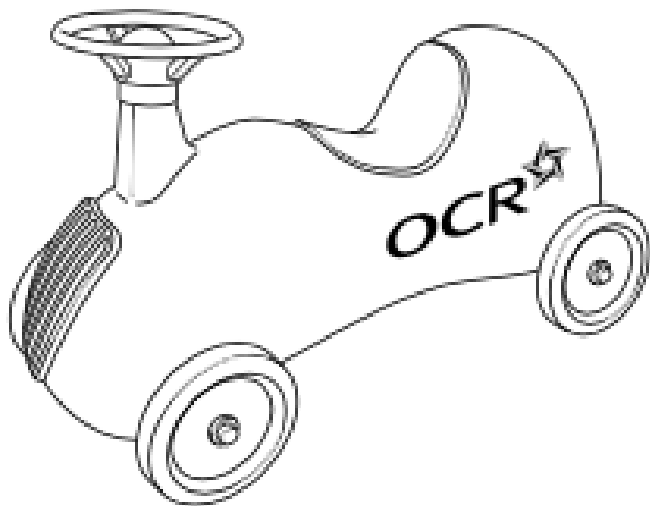
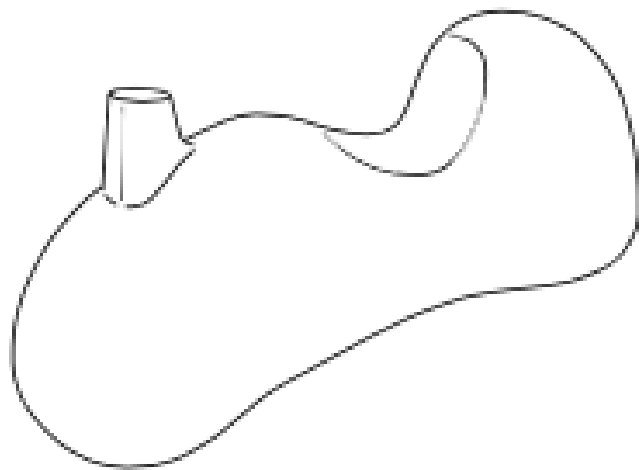

Fig. 6
Fig. 7
Fig. 6 shows part of a point-of-sale display for bottles of perfume.
State a **suitable specific material** for the point of sale display shown in Fig. 6.
Fig. 6 shows a plastic ride-on toy for a small child.
Fig. 7 shows the hollow body shell of the plastic ride-on toy shown in Fig. 6.
- (i) State a **suitable specific plastic** for the hollow body shell shown in Fig. 7.